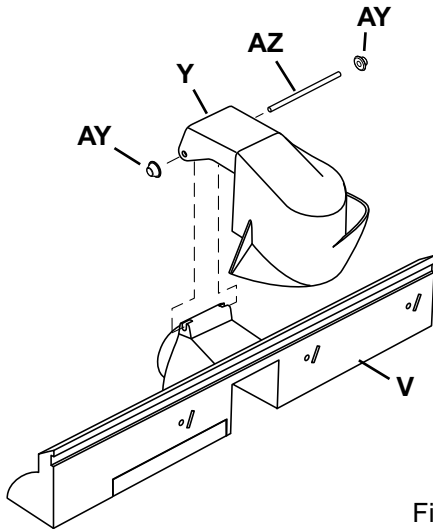

Figure 16
1. Position the two holes on the security guard (Y) so that they align with the two holes on the fence (V). See Figure 16.